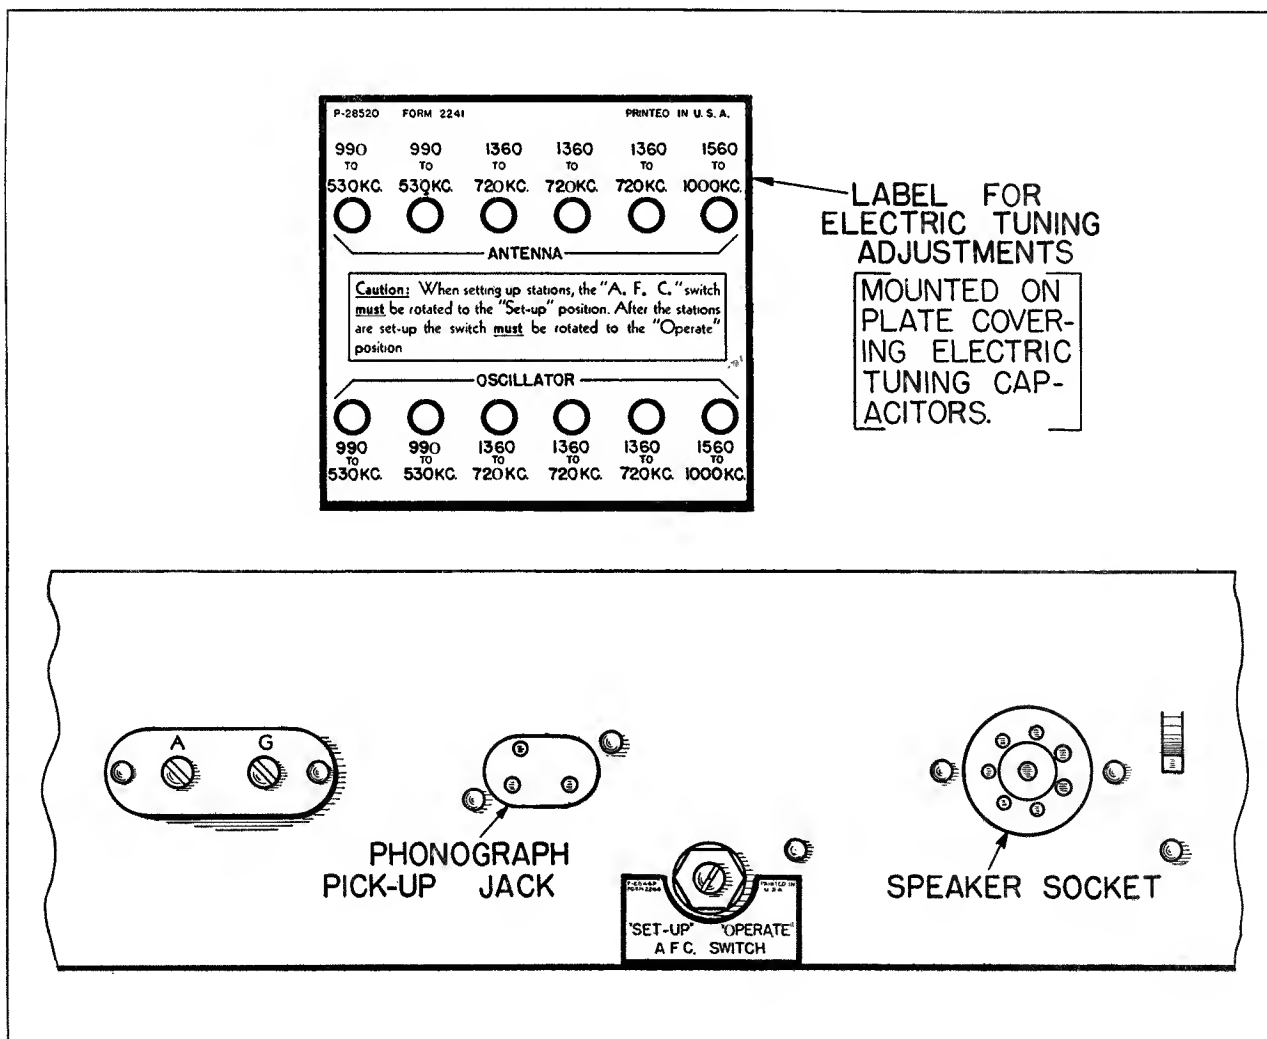

Fig. 5.
CAUTION: Never attempt to align the R. F. or I. F. circuits of this receiver with the Fidelity control knob set at any position other than the "Normal" position and the "Manual-Electric" control knob set at the "Electric" position unless specifically directed in the following paragraphs. Also, do not make any aligning adjustments of the R. F., I. F., or "Discriminator" circuits with the A. F. C. switch (which is located on rear of the chassis base) set at the "set-up" position. See Fig. 5.
A socket having three contacts is provided on the rear of the chassis base of these receivers. See Fig. 5. To equip these receivers for phonograph operation, it will be necessary to purchase and install in the receiver a Stromberg-Carlson, P-27946 Switch Assembly. Part of this assembly has to be wired to the above mentioned three prong socket. Complete instructions on how to install and operate this switch are furnished with each switch.
CAUTION: Each button adjustment for electric tuning has assigned frequency limits. These limits are designated for each adjustment on the rear plate which covers the tuning adjustments and are visible when looking at the rear of the receiver. See Fig. 5. The six stations should be selected so that the frequency of each station will be within the frequency limits assigned to one of the buttons.
8. **IMPORTANT:** By the aid of a screwdriver, rotate the slotted shaft of the "A. F. C." switch, which is located on the rear of the chassis base, so that the slotted shaft points in the direction of the word, "Set-up" (maximum clockwise rotation). See Fig. 5.
10. Push the farthest left-hand button (looking at the front of the receiver) which should be the button for the station having the highest frequency provided the frequency of the station is within the designated frequency limits of the tuning adjustments for this button. See Fig. 5. Then, looking at the rear of the receiver, rotate the screw of the oscillator tuning adjustment which is designated 1560 to 1000 kilocycles to the position where the desired station is received. In order to check whether the program being received is from the desired station, simply rotate the "Manual-Electric" control to the "Manual" position, and with the receiver tuned in "Manually" to the desired station a quick check can be made; then rotate the "Manual-Electric" control knob back to the "Electric" position. Exact resonance with the desired station should be obtained by observing the tuning indicator. When this adjustment has properly been made, the screw of the antenna tuning adjustment designated 1560 to 1000 kilocycles should be rotated to the position where maximum indication is again obtained on the tuning indicator tube. When these adjustments have been properly made the station having the highest frequency is correctly set-up for Electric Tuning by means of the push button.